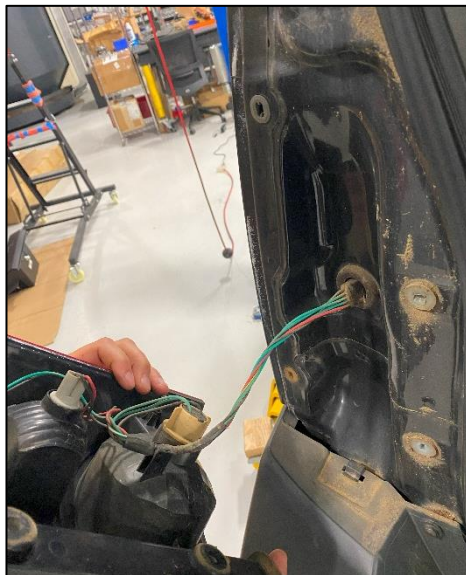

Figure 2
4. Remove the Driver Side Taillight. *Figure 2.*